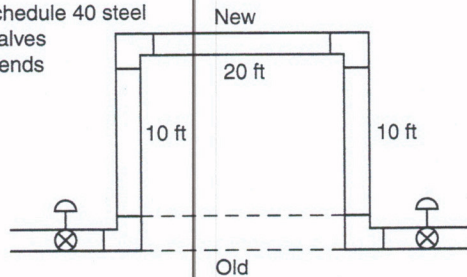

Figure 1.57
35. A run of water piping crosses a field where a road is to be built. The piping will be routed temporarily over the road as shown in Figure 1.57. How is the load on the pump affected by the temporary change? Estimate the additional load on the pump as a function of flow rate for the dimensions and fittings shown in Figure 1.57. Both new valves are ball valves.